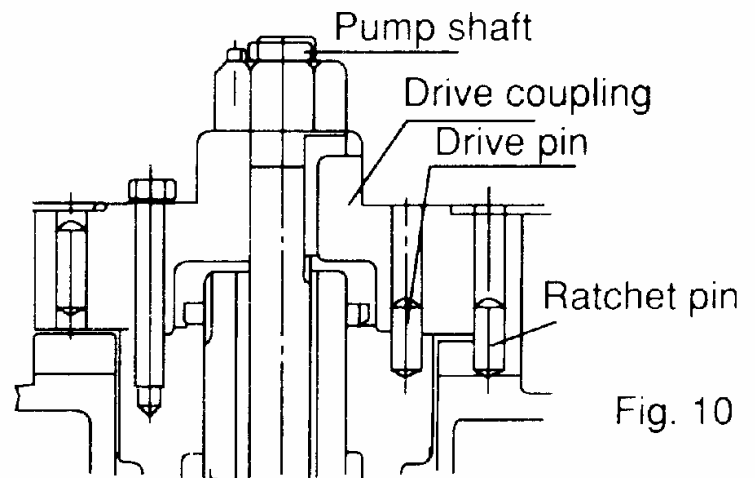

Fig. 10
3.3.7 Non-reverse ratchet/coupling, as Fig. 10 (If necessary)